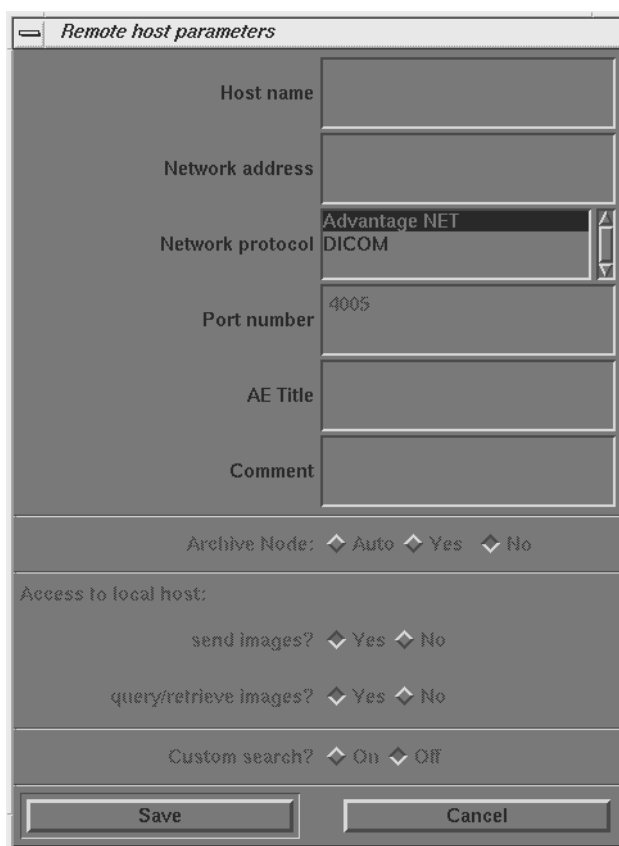

Figure 7-4 Advantage Net Network Protocol Parameter Settings
- 1.) Select REMOTE HOSTS from the pull down menu. The system displays the Remote Host Parameter Screen as shown in Figure 7-4.